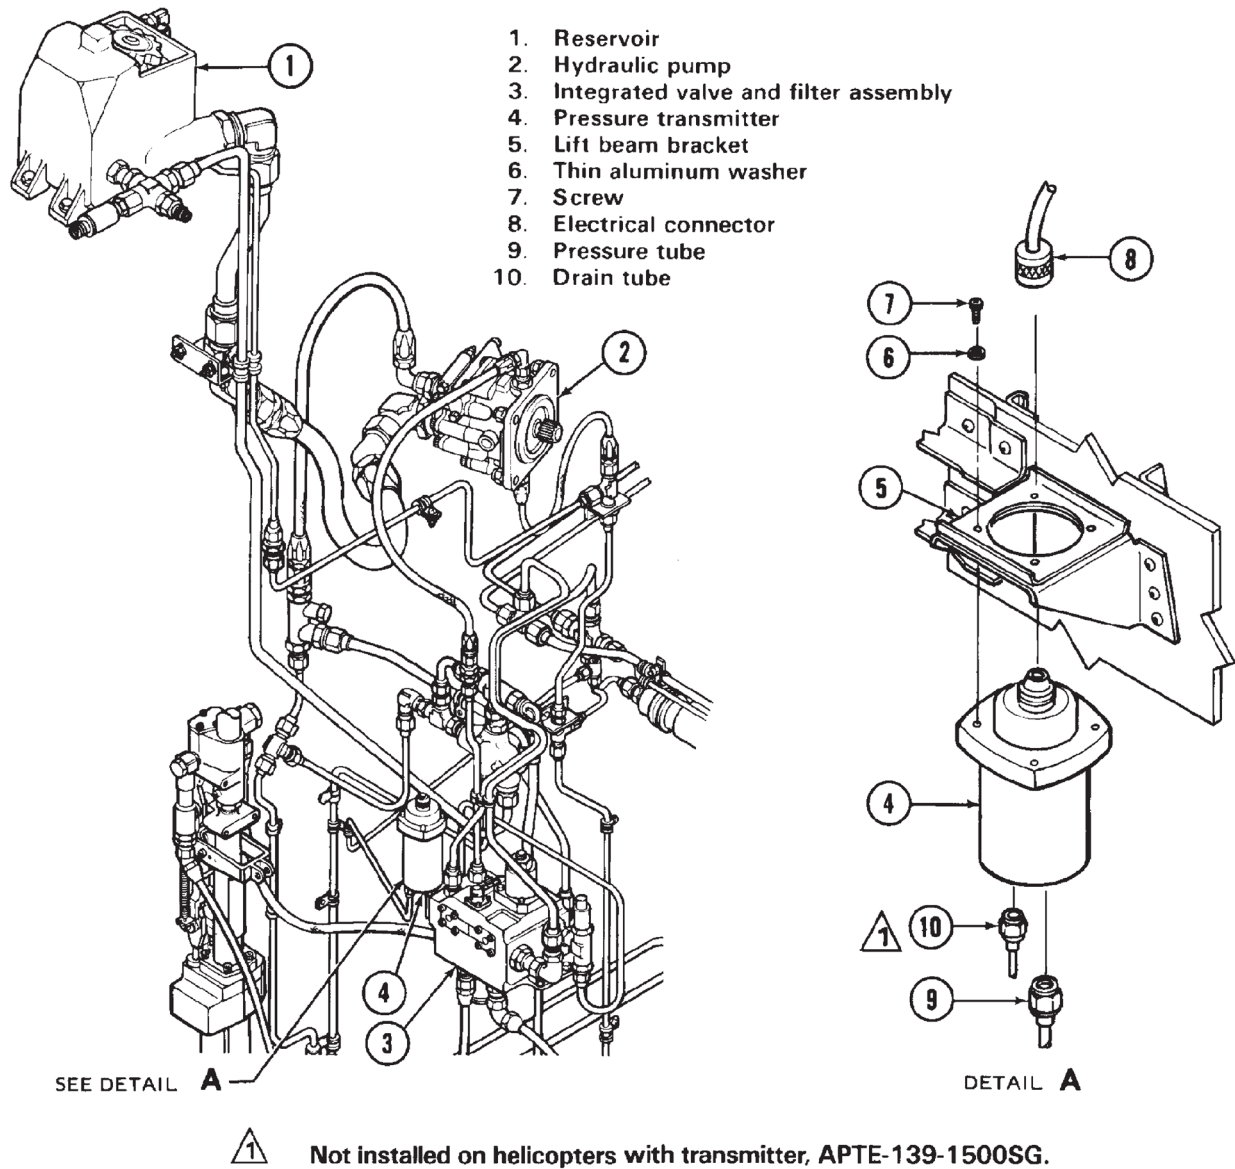

Figure 29-6. Pressure Transmitter
Hydraulic system No. 1 (Figure 29-6) and hydraulic system No. 2 (Figure 29-3) have pressure transmitters installed in the compartment below the transmission.
29.3.7.1.2 Disconnect electrical connector (8, Figure 29-6).
*Drain tube (10) is not installed on helicopters with transmitter APT-139-1500SG.*
29.3.7.3.1 Place pressure transmitter (4, Figure 29-6) into lift beam bracket (5) and secure with screws (7) and thin aluminum washers (6).
29.3.8.3.9 Connect control tube (16, Figure 29-6) and spring (14) during rigging procedures (Chapter 67).